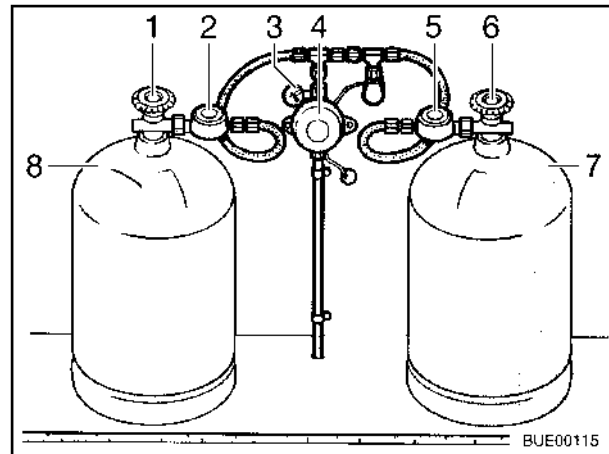

Fig. 105 Triomatic switching facility
- Regulator tap (Fig. 105,1) primary bottle
- Gas pressure regulator (Fig. 105,2) primary bottle
- Operating status indicator (Fig. 105,3)
- System regulator (Fig. 105,4)
- Gas pressure regulator (Fig. 105,5) reserve bottle
- Regulator tap (Fig. 105,6) reserve bottle
- Primary bottle (Fig. 105,8)
- Reserve bottle (Fig. 105,7)
The Triomatic switching facility automatically switches gas feed from the primary bottle (Fig. 105,8) to the reserve bottle (Fig. 105,7) as soon as the primary bottle is either empty or no longer ready for operation. The heater may still continue operation.
The Triomatic switching facility consists of two gas pressure regulators (Fig. 105,2 and 5) and a system regulator (Fig. 105,4). The primary bottle gas pressure regulator (Fig. 105,2) is identified by a green identification plate, the reserve bottle gas pressure regulator (Fig. 105,5) is identified by a red plate. The operating status indicator (Fig. 105,3) on the system regulator can check the gas installation for tightness. The gas pressure regulators are fitted with combination connections and permit connection to all gas bottle sizes (3 kg to 33 kg).
- Open the regulator tap (Fig. 105,6) of the reserve bottle (Fig. 105,7).
- Open the regulator tap (Fig. 105,1) of the primary bottle (Fig. 105,8).
Both gas pressure regulators are now ventilated. The system regulator (Fig. 105,4) supplies the consumers with the respective pressure, regardless of whether the primary or reserve bottle is delivering gas. A green or red field on the operating status indicator (Fig. 105,3) shows which gas bottle is supplying gas.
- ▷ For operation with just one gas bottle, the primary bottle gas pressure regulator (Fig. 105,2) is to be connected.
If the operating status indicator (Fig. 105,3) is in the red range, the primary bottle (Fig. 105,8) must be changed.
- Close the regulator tap (Fig. 105,1) of the primary bottle (Fig. 105,8).
- ▷ All consumers can be supplied and further operated using the reserve bottle (Fig. 105,7) (red identification plate).
- Connect the full gas bottle to the primary bottle gas pressure regulator (Fig. 105,2).
- Open the regulator tap (Fig. 105,1) of the primary bottle. The primary bottle automatically supplies more gas.
- ▷ Occasionally use the reserve bottle (Fig. 105,7) as the primary bottle to check if the reserve bottle is sufficiently full.
- Green indicator lamp: primary bottle (Fig. 105,8)
- Red indicator lamp: reserve bottle (Fig. 105,7)